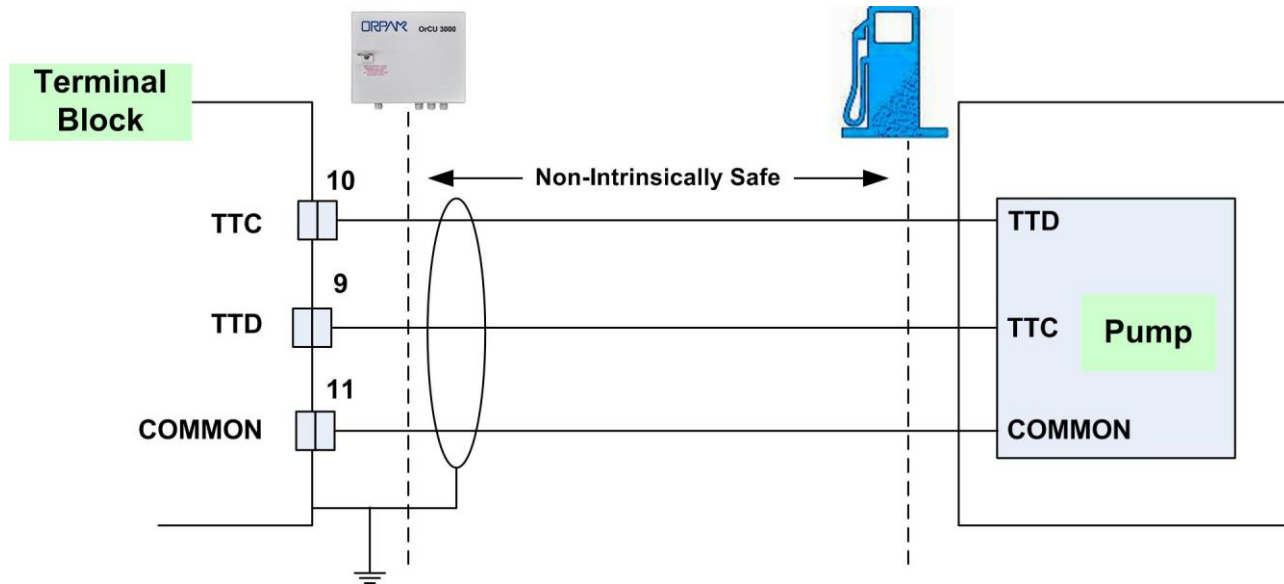

Figure 3-19 Tokheim Electronic Pump - Wiring Diagram
- Figure 3-19 shows the specific wiring connections between CFN PLUS and the Tokheim pump nozzle, and the terminals that differ from the Mechanical Pump.